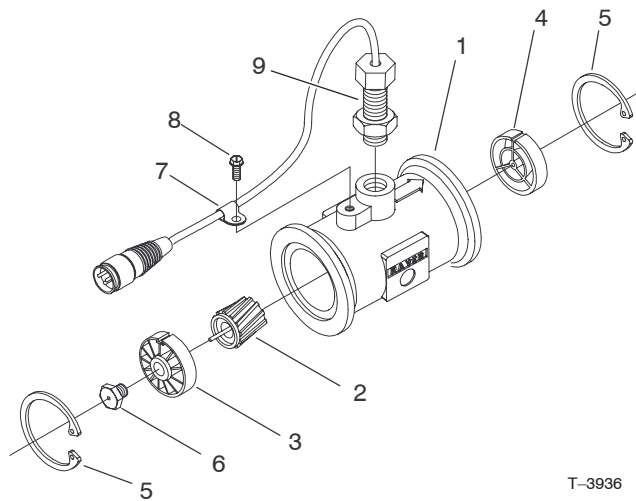

Figure 6
3. Remove the retainer ring on the upstream side (Fig. 6).